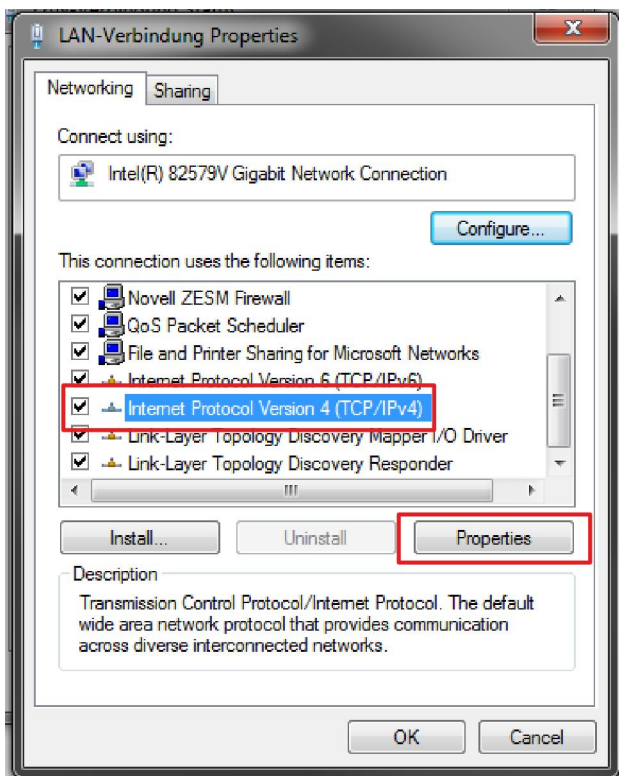

Fig. 45: LAN connection properties
6. ▶ Select 'Internet Protocol Version 4 (TCP/IPv4)', then select 'Properties' (Fig. 45).